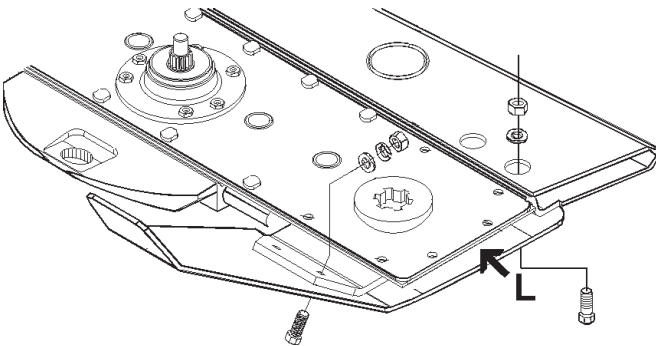

Figure 9
11. Attach the Inner Shoe (L) to the cutter bar (See **Figure 9**) using the hardware shown in the parts list.